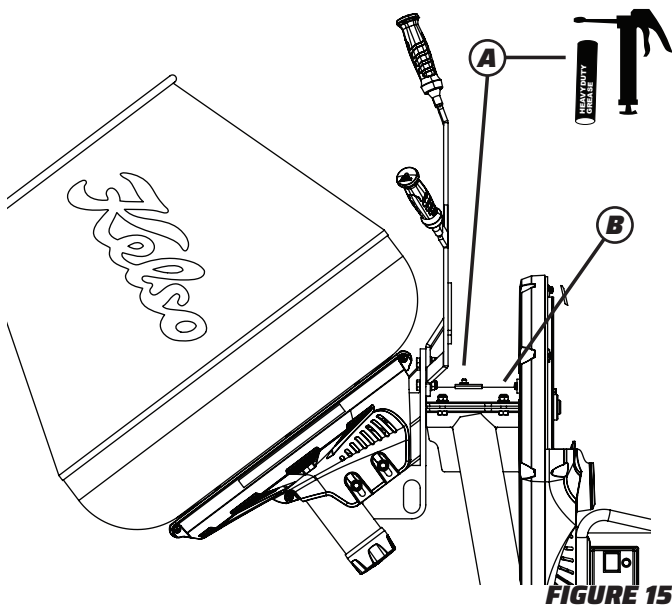

FIGURE 15
- Always clean off the grease nipple with a rag before attaching the grease gun coupler. This will prevent pumping contamination into the bearing assembly. **(Figure 15 - A)**
- During first service, remove the top mount plate and clean away all old grease. **(Figure 15 - B)**